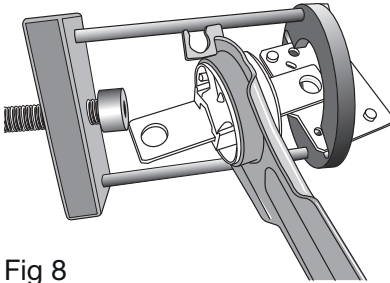

Fig 8
Note: For method of mounting and demounting the press frame when working on the Volvo's left side bush with double size mounting plate, see Fig 8 and Fig 9. Hold the tool frame at an angle and use the slots built into the press frame support ring (4) to slide past the bush mounting plate.